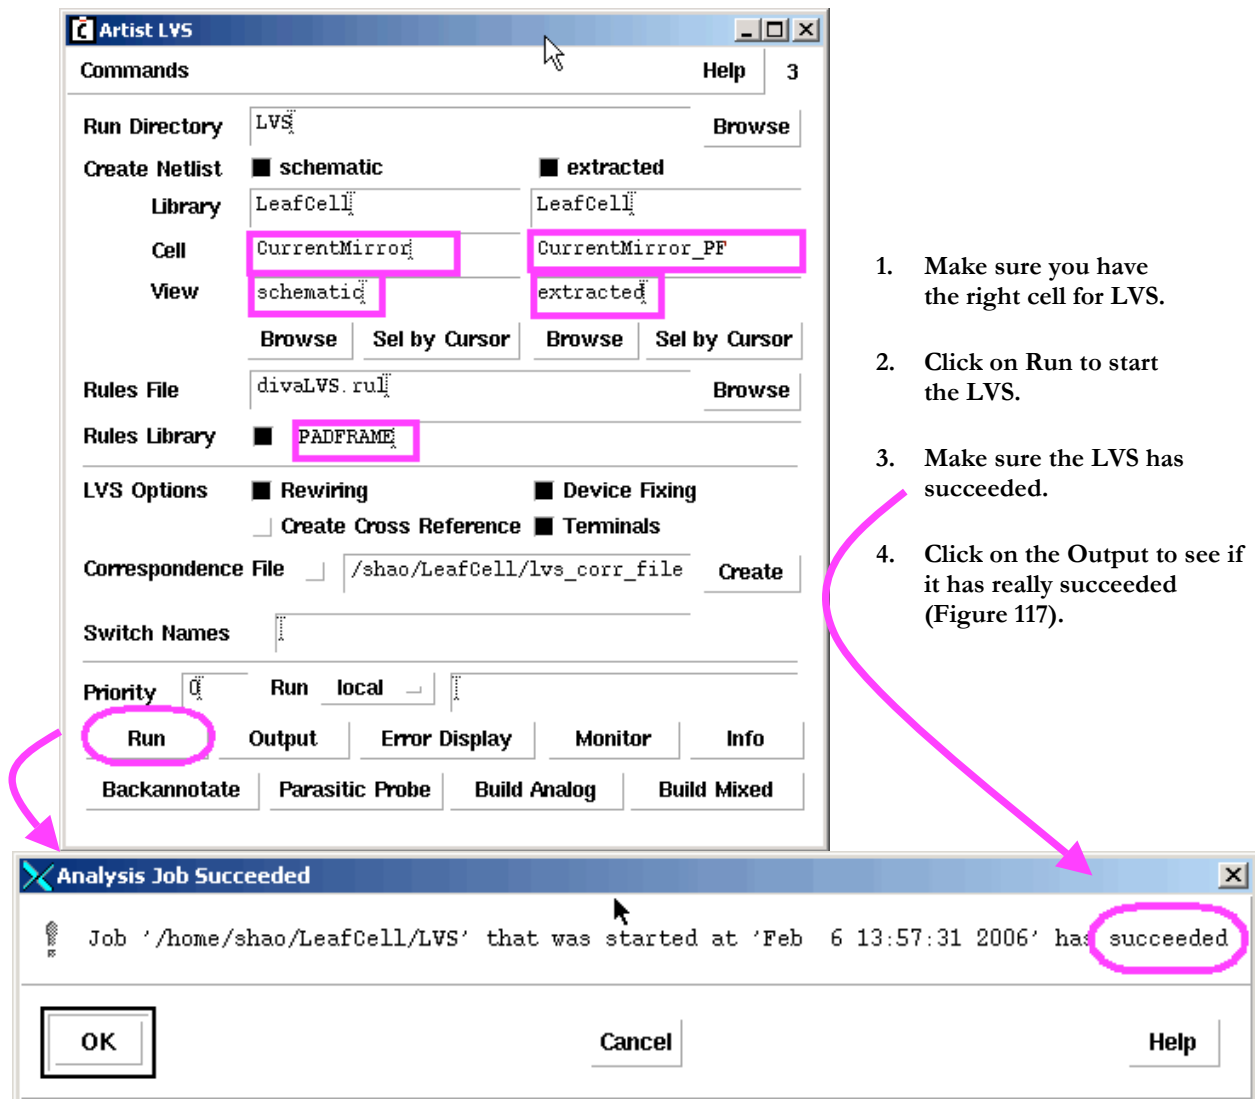

Figure 116: Running LVS for PF.
16. Run LVS for your PF (Figure 116).